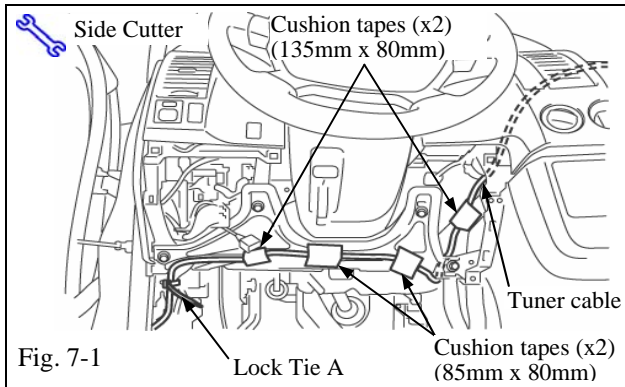

Fig. 7-1
- (a) Install four (4) cushion tapes vertically as shown. The two (2) 80mm x 85mm cushion tapes is used on the middle of the under dash bracket. (Fig. 7-1)
- (b) Secure the tuner cable with the one (1) lock tie A. (Fig. 7-1)
- (e) Tuner cable should be tucked behind the flange on the upper back side of the air bag. Cushion tape count and location to be the same as before. (Fig. 7-1)